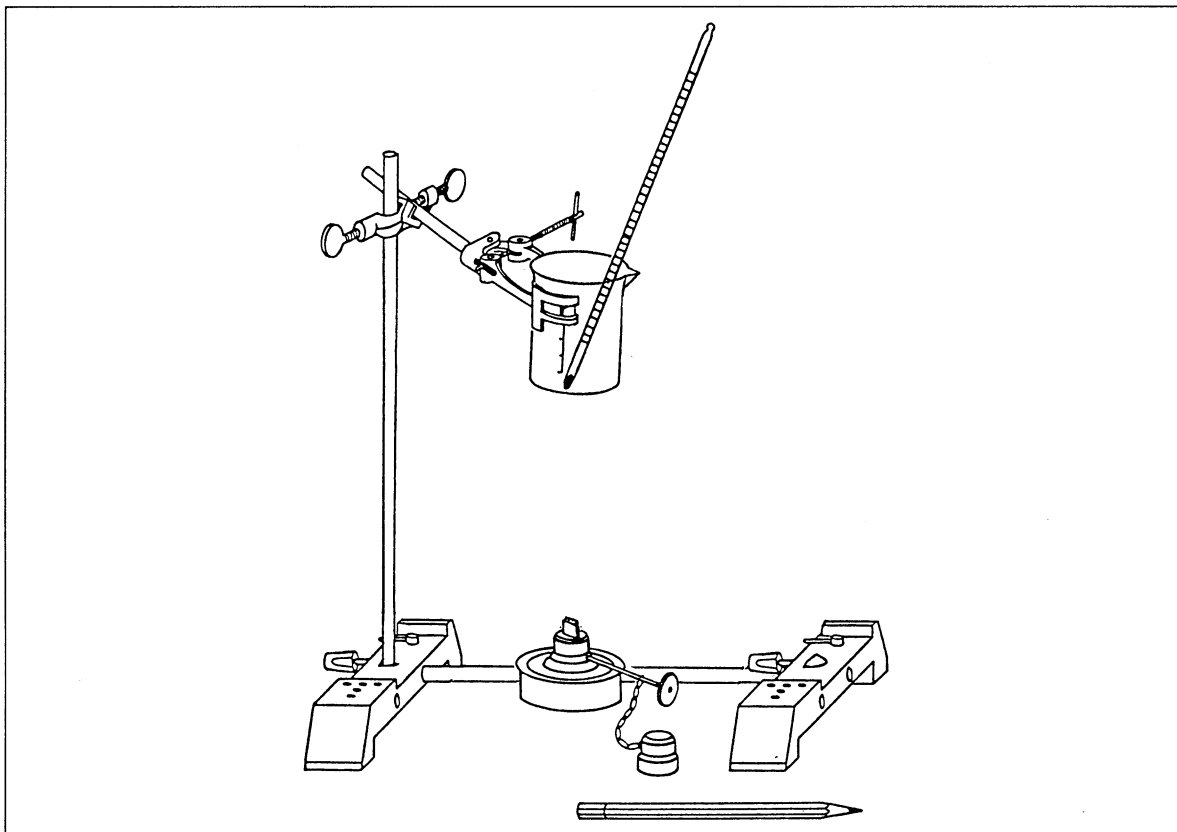

Fig. 1 Setup for calibrating a thermometer
1. Set up the stand as shown in fig. 1. Attach the double socket and apparatus clamp as shown.